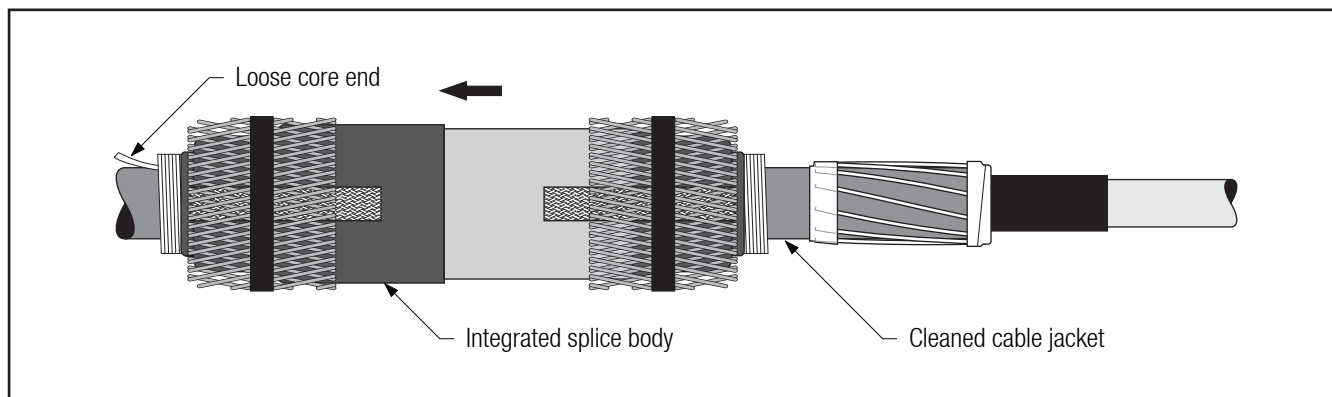

Figure 5
- 2.7 Slide integrated splice body onto clean cable jacket, loose core end first (*Figure 5*). If the splice body contains a long built-in ground strap for external grounding, ensure that the long ground strap is on the side of the splice where the external grounding will be located.